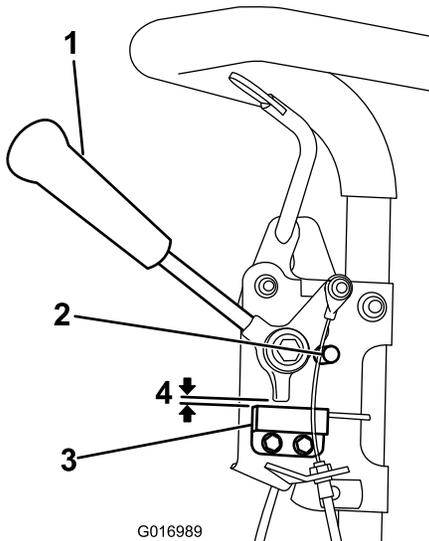

Figure 29
1. Make sure the engine is off and the traction lever is disengaged and resting against the neutral stop (Figure 29).
2. Loosen the interlock switch mounting fasteners (Figure 29).
3. Place a .032" thick shim between the traction lever and the interlock switch (Figure 29).